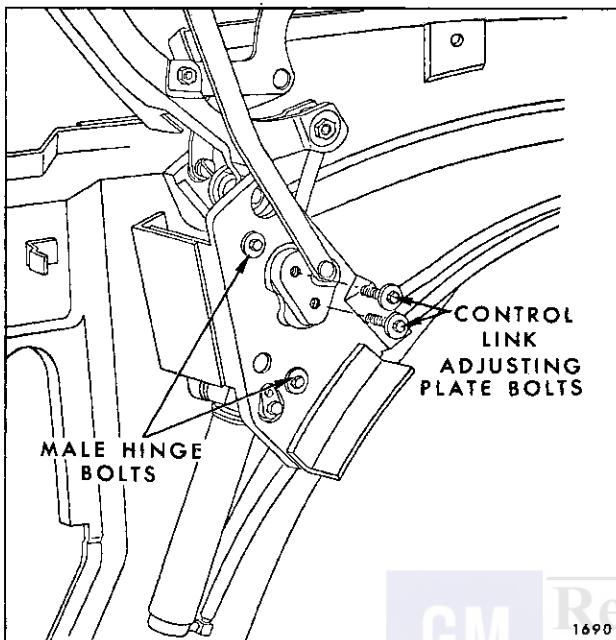

Fig. 13-80—Male Hinge Attachment
- c. Loosen two bolts securing control link adjusting plate sufficiently to permit adjustment of plate (Fig. 13-80).
- b. Loosen male hinge assembly and control link attached bolts (Fig. 13-80).
- b. Loosen male hinge assembly attaching bolts (Fig. 13-80).